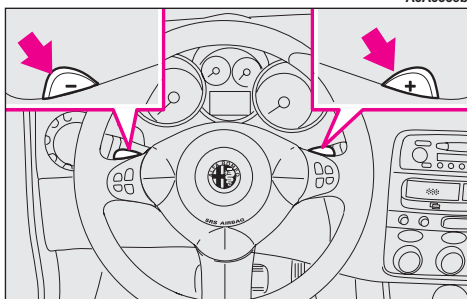

fig. 125
- the buttons on the steering wheel (**fig. 125**), which can be operated only when the car speed exceeds 0.5 km/h.